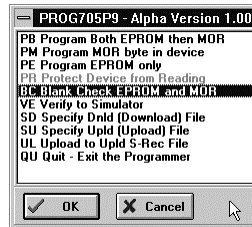

Figure 6-21. PROG05P9 Programmer Pick Window
- Pick Window: The Pick Window (Figure 6-21) displays all programming actions and functions for you to select.